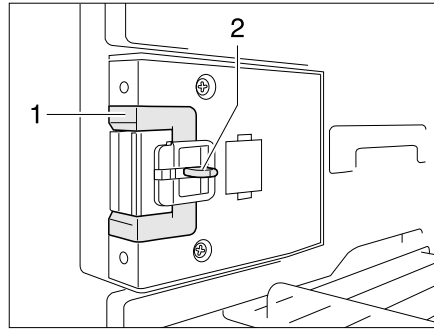
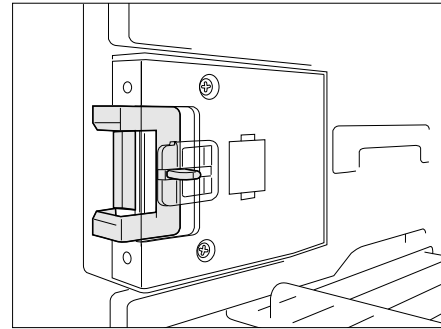

Fig. 340 Locking device in normal position
Fig. 341 Locking device in ventilation position
- Press down the unlocking device (Fig. 340,2).
- Push locking device (Fig. 340,1) forwards (Fig. 341).